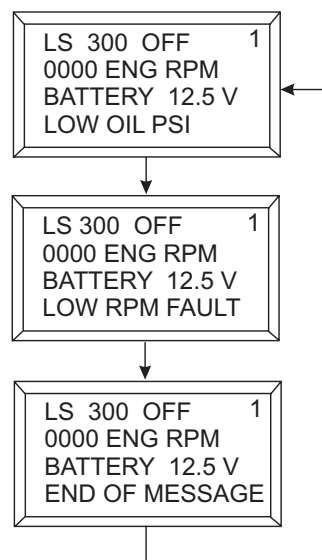

Figure 25. Primary Screen (Ignition Key ON)
6. When the ignition key is in the **ON** position, the **digital readout screen** (primary) will cycle through 3 displays as shown in Figure 25.